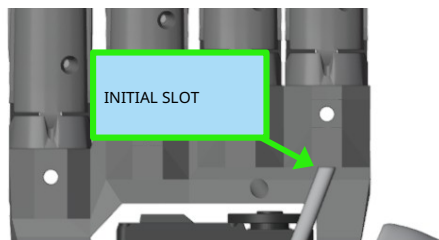

Figure 5.24: Inserting tube into the initial slot (rear view)
1. Insert one end of the PTFE tube into the initial slot (on the back of the skeleton) of the extension tendon (figure 5.24)